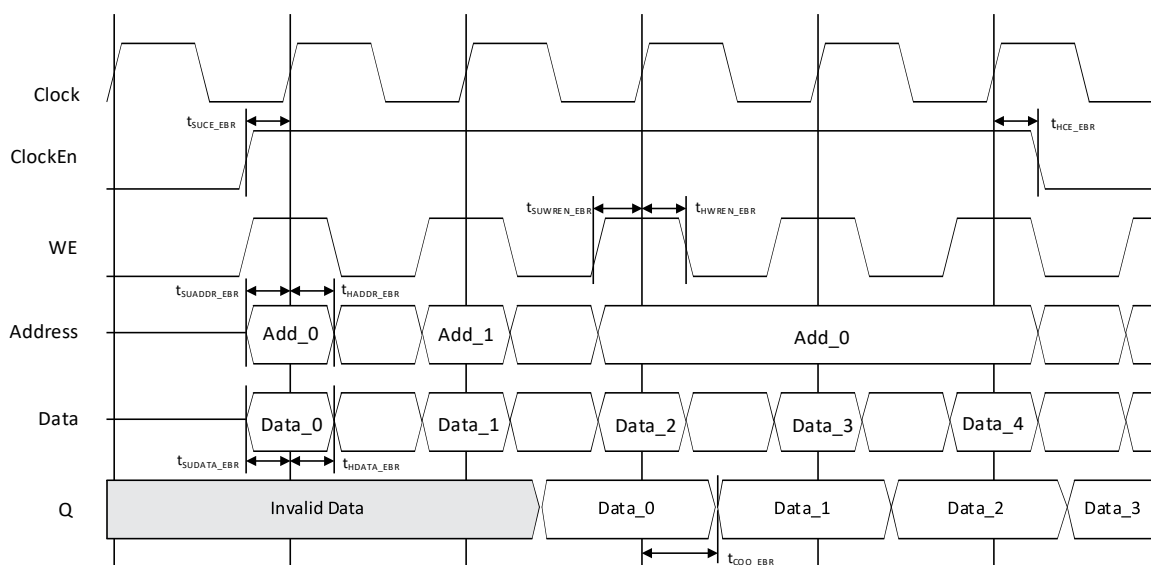

Figure 4.7. Single-Port RAM Timing Waveform – WRITE THROUGH Mode, with Output Registers
- Figure 4.2 to Figure 4.7 show the internal timing waveforms for the Single-Port RAM, RAM DQ.